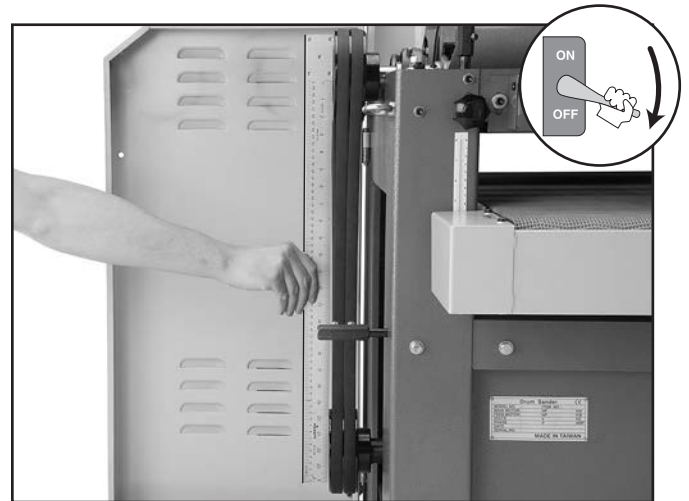

Figure 45. Checking pulley alignment with a straightedge.
3. Place a straightedge across the face of the motor pulley and the front drum pulley to check the alignment. The straightedge should sit evenly on the top and bottom part of both pulleys, as shown in **Figure 45**.